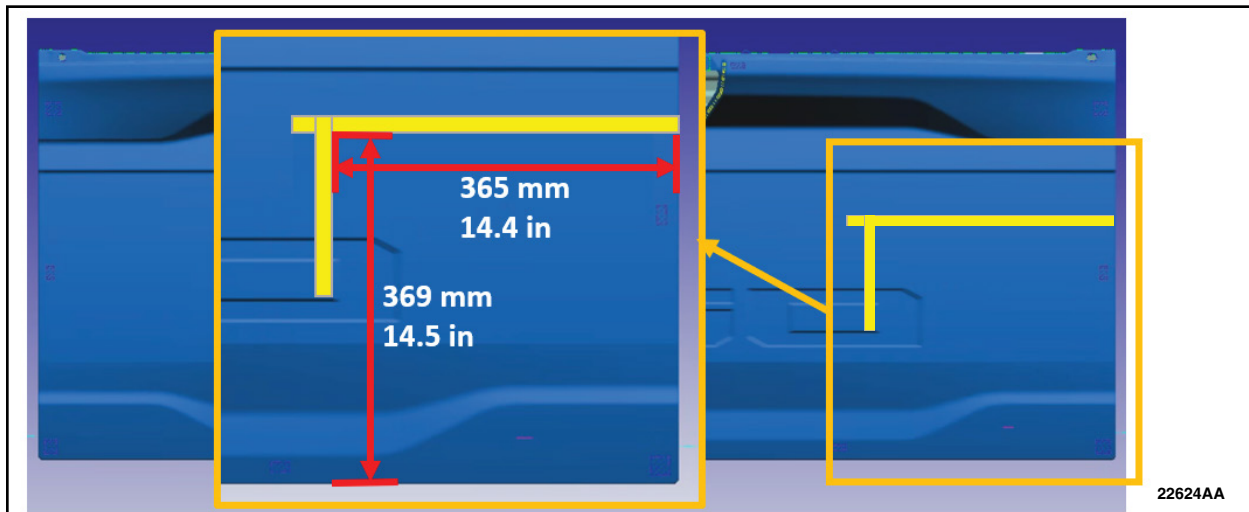

FIGURE 16
62. Measure and apply locating masking tape to the tailgate outer panel. See Figure 16.